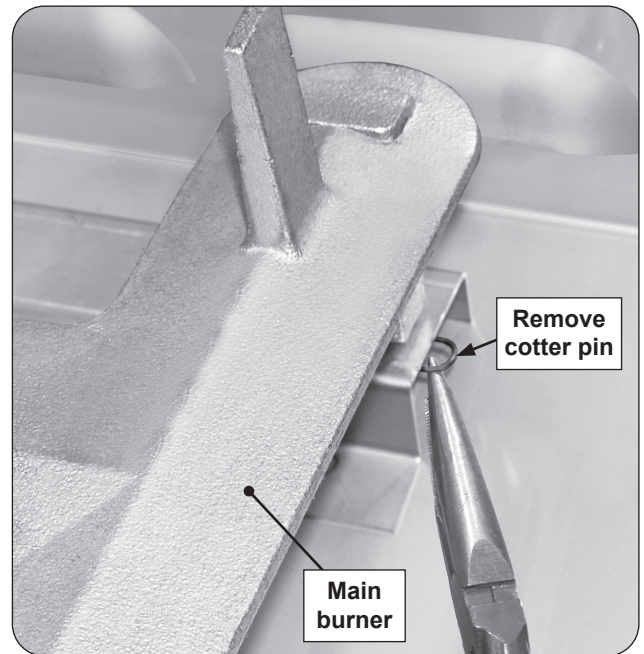

Fig. 44-1 Main burner removal
2. Locate and remove the cotter pin from the left or right rear burner anchoring peg by pulling it straight out of the cotter pin hole using fingers or needle-nose pliers. See Fig. 44-1.